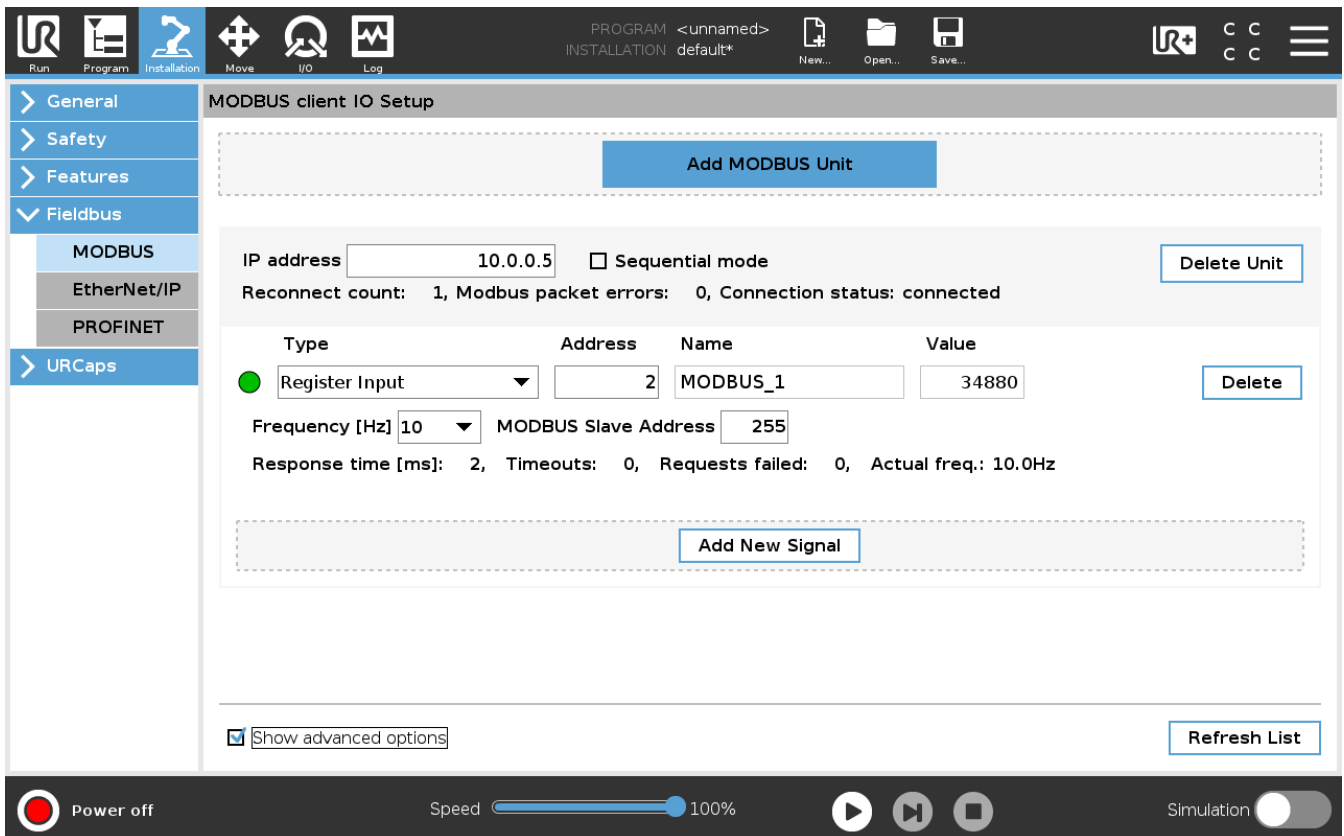

Fig. 11: Polyscope MODBUS client IO Setup page
5. Please set the IP address of the IO-Link Master (Fig. 11) and check the „Show advanced options“ on the bottom of the page. Setup the Modbus Signal: select „Register Input“ for Type and type 2 for Address.
6. If the Modbus communication is running the value of the Signal should not be zero and the Connection status of the unit should be „connected“ (Fig. 11).
To reduce communication traffic and to increase the throughput rate on the Modbus we highly recommend to delete all unnecessary MODBUS Units and Signals from “MODBUS client IO Setup” page (Fig. 11) on the robot.